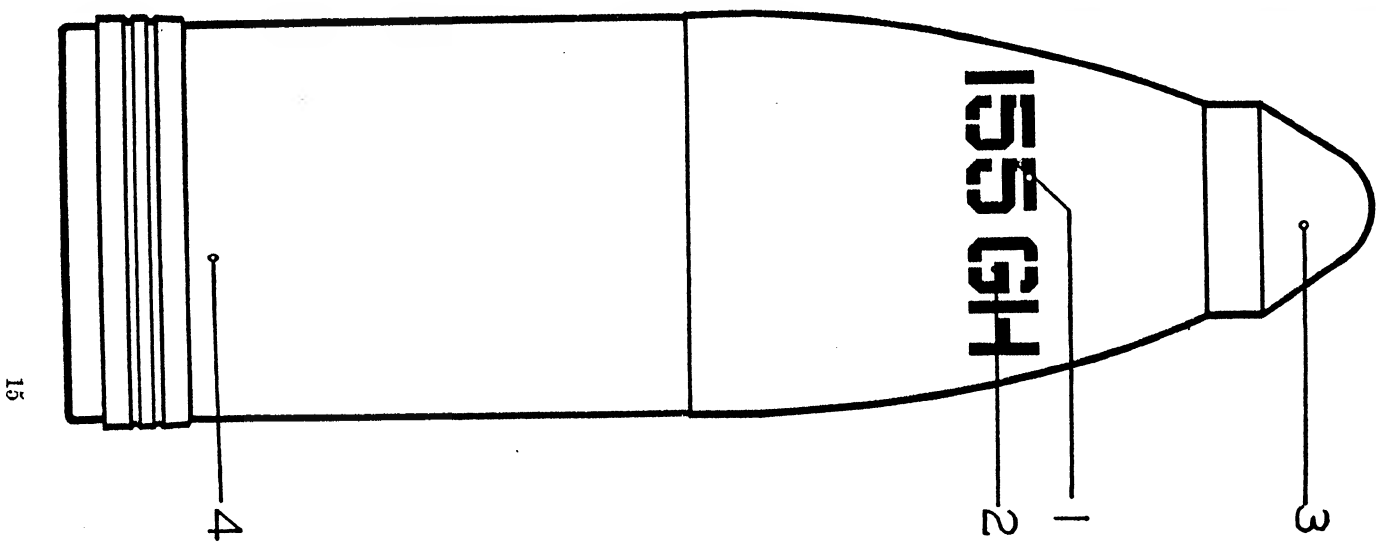

FIG. 9.—Marking for 155-mm. shrapnel (gun and howitzer)
*d. Identification.*—Shrapnel are painted red to indicate that the filler charge is a low explosive. They are also stenciled for identification as shown in Figure 9. Some shrapnel may be found stenciled "155 G" or "155 H." These are identical with those properly stenciled "155 G H" and are suitable for use in either the 155-mm. gun or the 155-mm. howitzer.